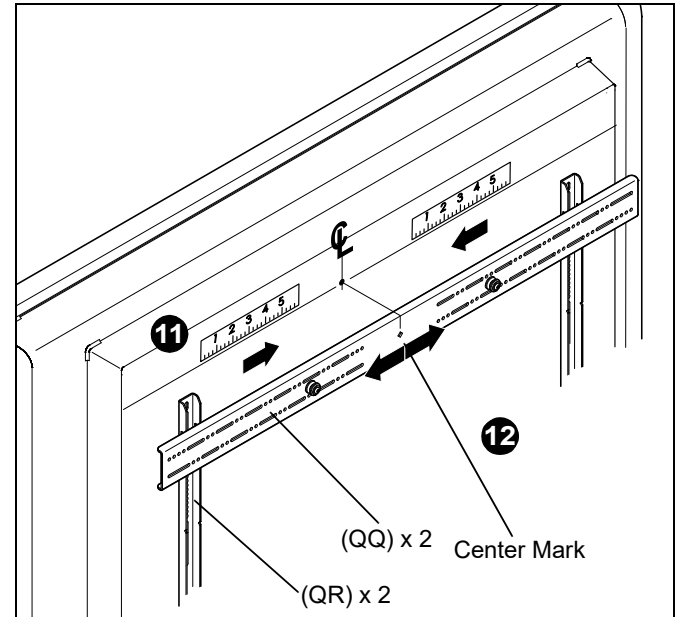
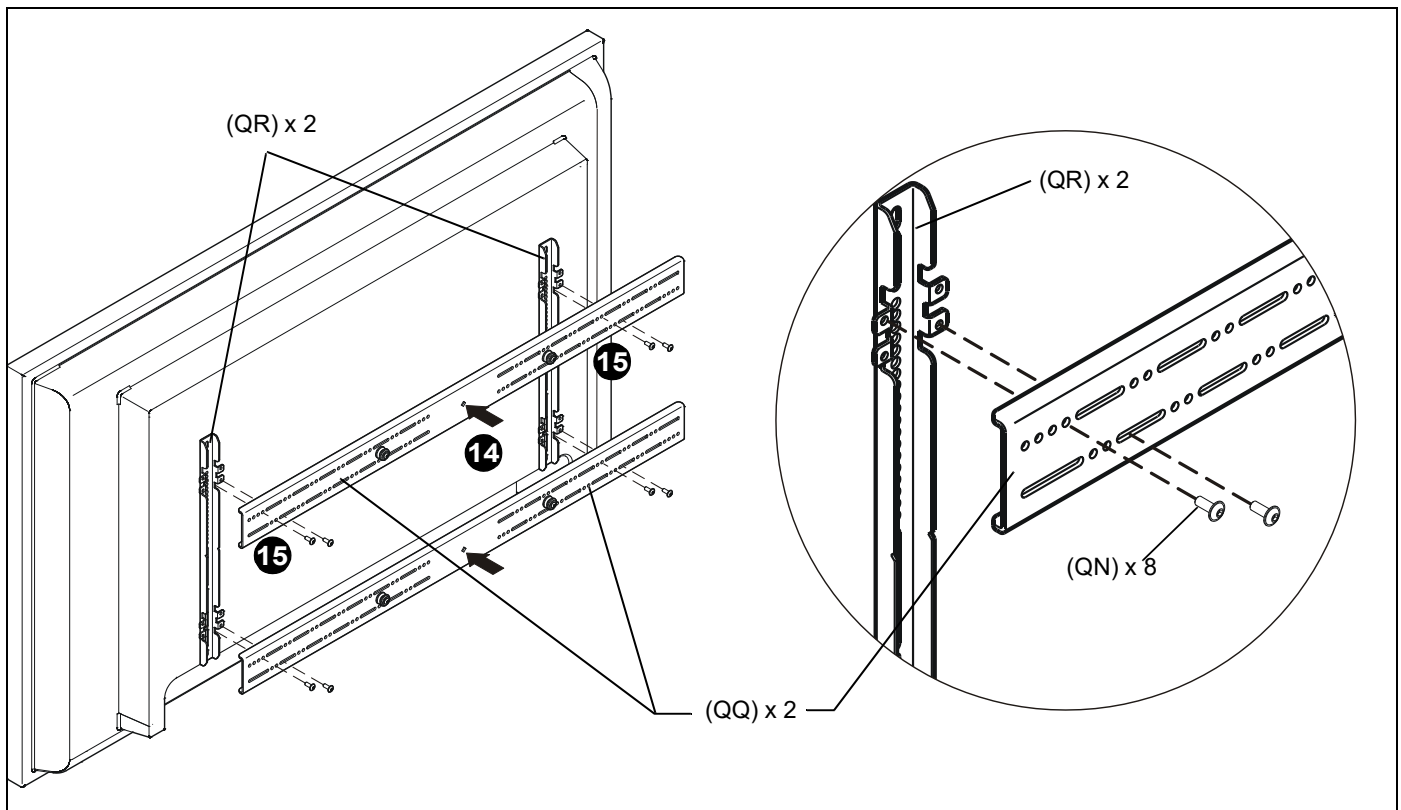

Figure 21
Figure 22
11. Determine and mark the horizontal center position between the Left and Right *TOP* mounting holes in display. (See Figure 21)
12. Determine and mark the horizontal center position between the Left and Right *BOTTOM* mounting holes in display. (See Figure 21)
13. Orient upper horizontal mounting bracket (QQ) so that flanges are facing towards display and resting in recessed area of left and right vertical mounting brackets (QR). (See Figure 21)
14. Adjust Upper horizontal mounting bracket (QQ) position until center diamond in horizontal mounting bracket (QU) aligns with mark made in Step 9, and mounting holes and slots in horizontal mounting bracket (QQ) are aligned with threaded holes in mounting tabs of left and right vertical mounting brackets (QR). (See Figure 21) and (See Figure 22)
15. Use 1/8" hex key (QP) to secure upper horizontal mounting bracket (QQ) to left and right vertical mounting brackets (QR) using four button head flanged screws (QN). (See Figure 22)
16. Repeat Steps 12 through 15 for lower horizontal mounting bracket (QQ).
IMPORTANT ! : The orientation of, and mounting holes used, when installing the lower horizontal mounting bracket must be the same as the upper horizontal mounting bracket. Vertically align upper and lower brackets by aligning holes or end of slots. (See Figure 22)
IMPORTANT ! : Whenever possible install mounting screws diagonally as shown in detail in Figure 22 below.